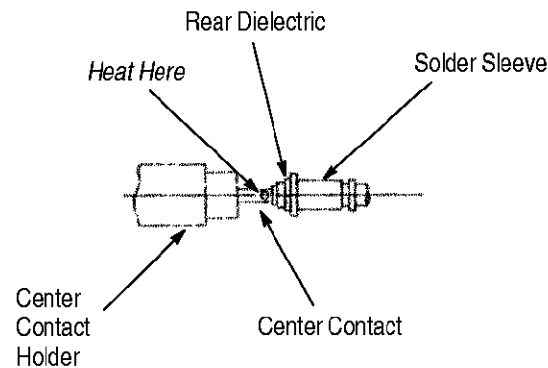

Figure 5
3. Place the center contact in the holder, heat the center center contact, and push it over the cable center conductor. The large diameter of the contact must be resting firmly against the rear dielectric. See Figure 5.